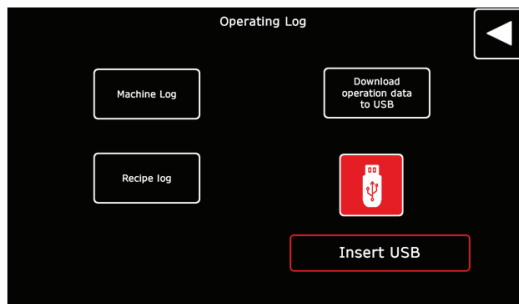

Figure 18-2.
2. Select the “Machine Log” button to access the mixers operating data. (Figure 18-2).